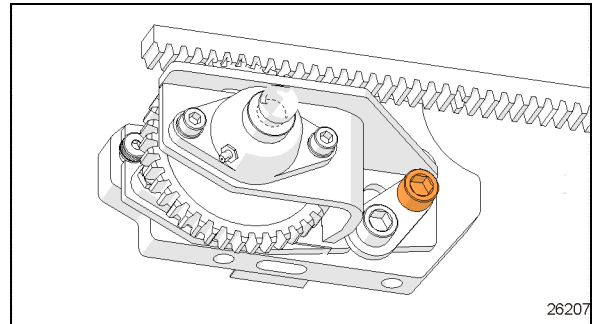
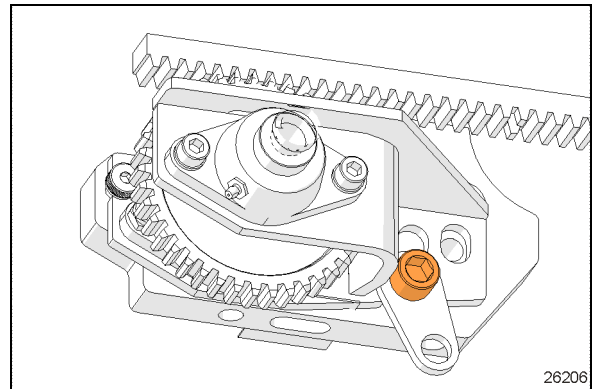

FIGURE 37: REMOVE UPPER SCREW
FIGURE 38: LOWER SCREW, TENSION RELIEVED
1. Remove upper screw as shown in Figure 37
2. Slightly unscrew the lower screw to remove tension on tab. (Figure 38)
5. Unscrew and remove the top pillow block mounting screws (7). Keep hardware.
6. Pull shaft (1) out
7. Remove old pinion gear (3). If key is damaged, replace with new.
8. On shaft (1), install thrust bushing (6), key (5), new pinion (3) and thrust washers (4).
9. Push shaft through bottom locking collar (2) and bottom pillow bearing until the shaft end contacts the bottom mounting plate.
10. Maintain shaft in contact with plate and lock bottom collar (2).
11. Using a drift and hammer, tension the eccentric locking collar (2) by means of one or two strong blows. There is a cavity on the collar made for that purpose.
15. On the pinion assembly, tighten upper and lower screws (Figure 37, Figure 38) to: **198 lb-ft (268 Nm)**